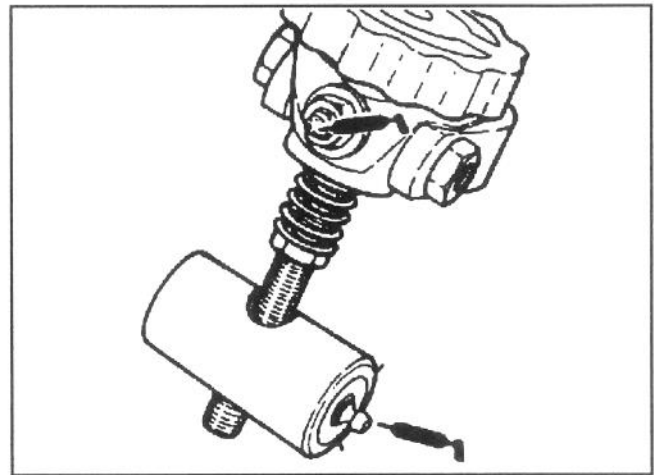
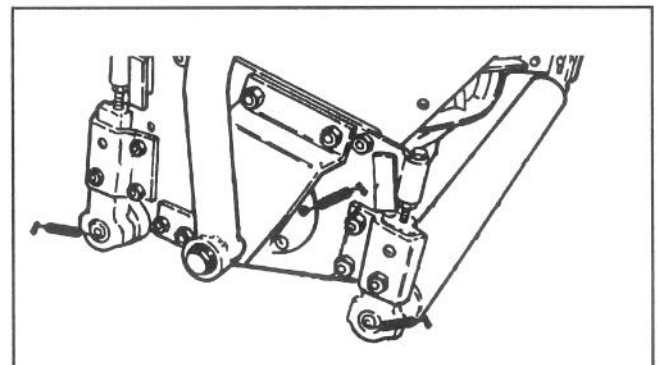

Figure 40
Figure 41
The cutting unit lubrication points are: Single point adjustment knob (2) (Fig. 40), reel flange bearing (2) and front and rear rollers (Fig. 41).